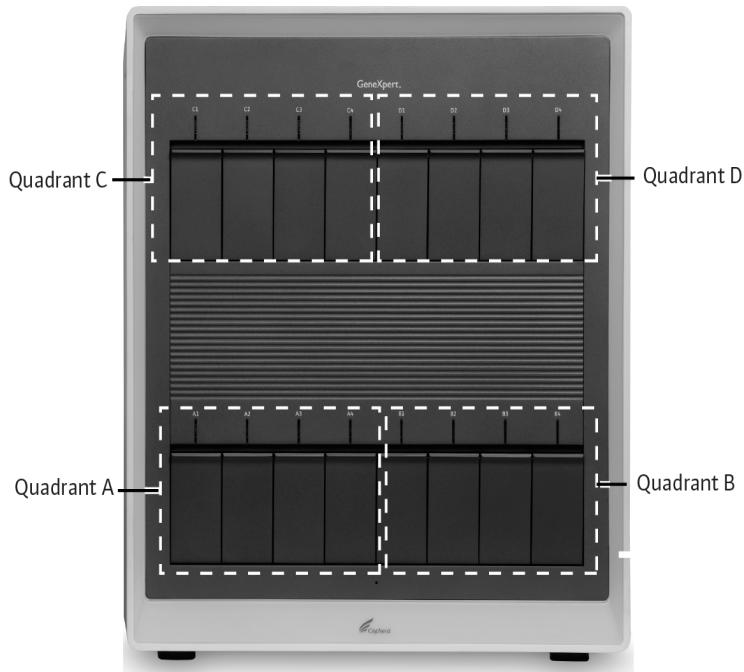
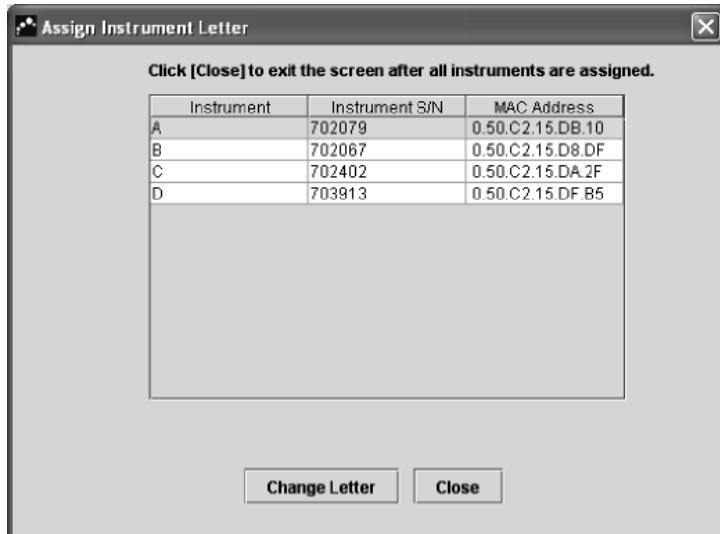
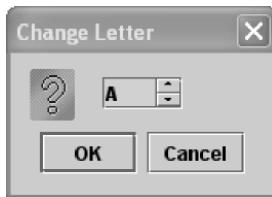

Figure 2-16. GX-XVI R2 quadrant assigned letter (A to D)
Figure 2-18. Assign Instrument Letter dialog box after assigning and instrument letter
Figure 2-19. Change Letter dialog box.
The GeneXpert Dx System software automatically assigns a letter (A, B, C or D) to identify each quadrant of the GX-XVI R2 instrument connected to the computer. Figure 2-16 shows how each quadrant of the GX-XVI R2 is seen by the system.
1. In the GeneXpert Dx System window, click **Setup** in the menu bar, and then select **Assign Instrument Letter**. The Assign Instrument Letter dialog box appears (Figure 2-18).
2. To change the assignment letter, click **Change Letter** in the Assign Instrument Letter dialog box (Figure 2-18). The Change Letter dialog box appears (Figure 2-19). Select the letter you want for the instrument by using the up and down arrows of the Change Letter dialog box. Select the letter that corresponds to the quadrant defined by the four flashing modules. For example, if the upper left set of modules (Quadrant C in Figure 2-16) is flashing, select **C** as the next letter.
The changed assignment letter will be displayed in the table in the Assign Instrument Letter dialog box (Figure 2-18).